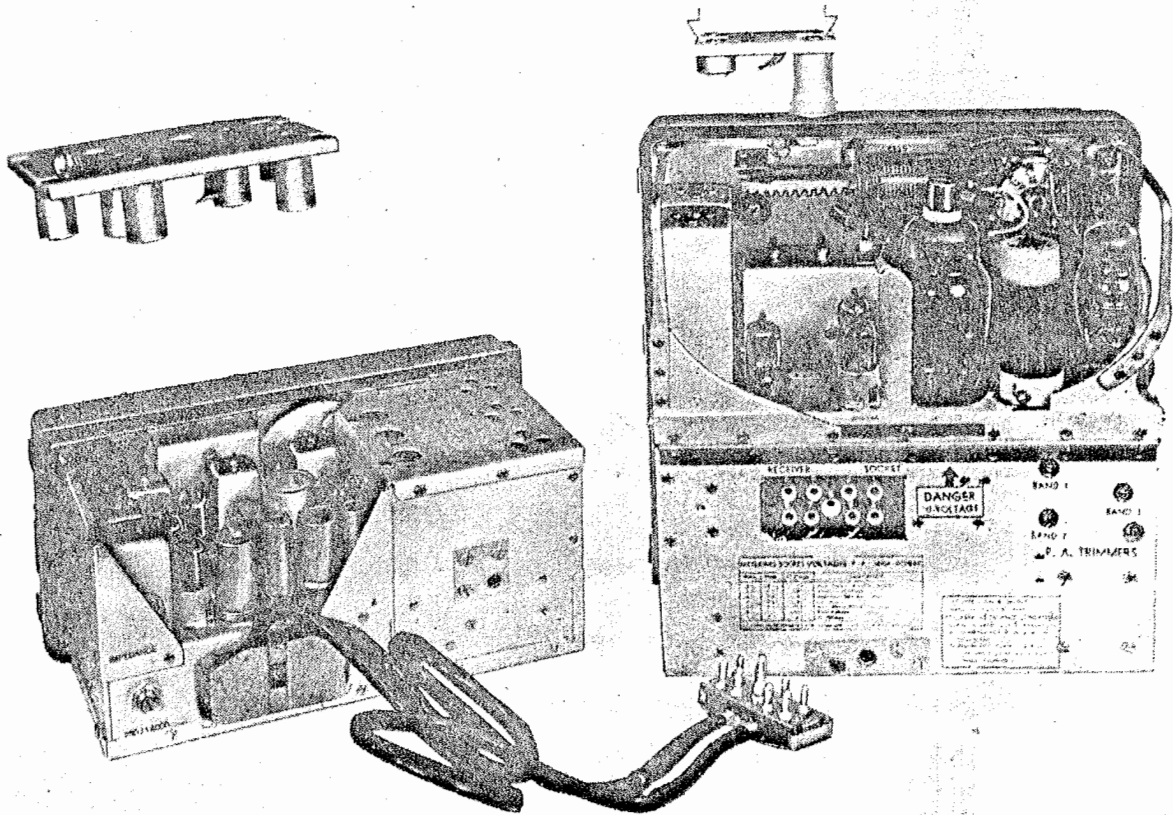
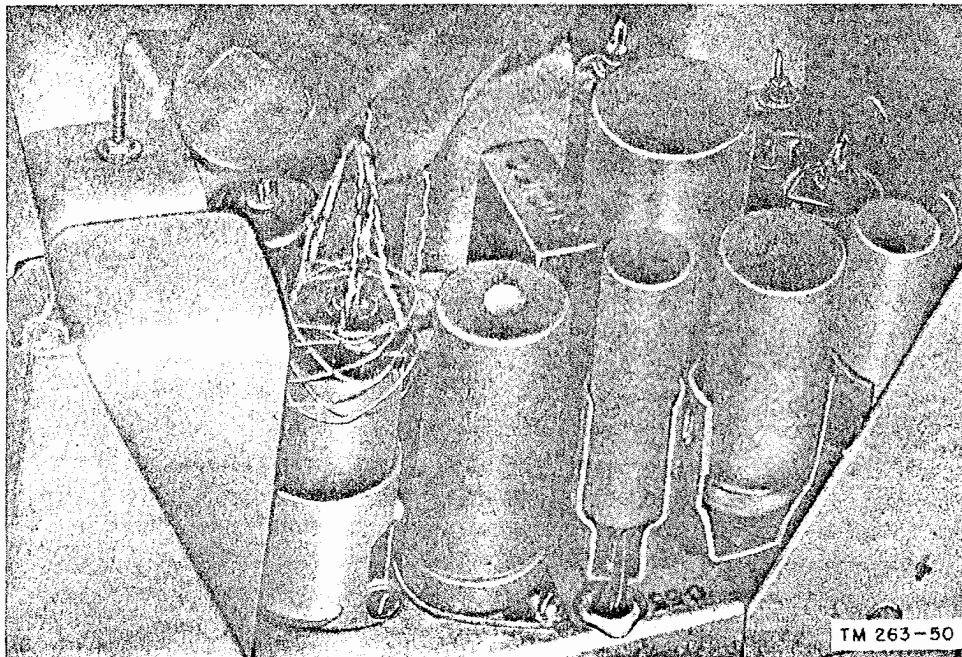

Figure 39. Rear view of transmitter and receiver, and cable 3E7173-22.
Figure 41. Removing tubes by means of tube puller; Kellems No. 11-16.
a. The receiver tubes and crystal are already installed when shipped. To inspect or replace them, proceed as follows: Remove the cover of Receiver-Transmitter RT-77/GRC-9 (par 8b). Lift the receiver portion partially out of the case and remove the plug of cable 3E7173-22 (fig. 39). The tubes and crystal are located beneath a single metal cover (fig. 39) which is removed without tools.
b. The remainder of the tubes and crystals are located under a small plate (fig. 39). The tubes are V101, V102, and V105 and the crystals are 1A, 1B, 2A, 2B, 3A, and 3B. The cover plate can be removed by releasing the spring catches at both ends of the plate and lifting straight upward. The tubes and crystals are then easily accessible. The tubes can be removed as shown in figure 41.
a. INTERNAL CONNECTIONS. The separate transmitter and receiver sections are connected by cable 3E7173-22 which is concealed by the front panels of the radio set. The cable is shown in figure 39. To replace the receiver and transmitter in the metal case, proceed as follows:
- (1) Place the empty case in a horizontal position with the open face upward and insert either plug of cable 3E7173-22 through the opening in the left-hand corner of the separating partition.
- (2) Insert the connecting cord plug into the corresponding jack on the back of the receiver chassis and gently lower the receiver into the cabinet and fasten the clamps along the side in accordance with paragraph 8.
- (3) Next, place the cable in the small bracket riveted to the back of the case. It is important that this be done to protect the cable from any damage which may occur if it is left to move